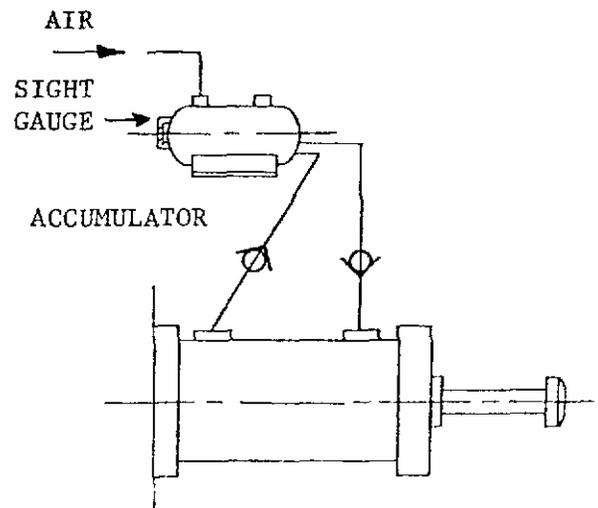

Figure 2
1. Connect air and hydraulic lines as shown in Figure 2. Make sure check valves are installed in opposite directions for positive oil flow. Check valve with free flow to accumulator port. This line carries fluid resulting from piston rod displacement when impacted and should be as large a diameter as practical in order to minimize fluid transfer velocity and corresponding jacket tube pressure. Install check valves close as possible to shock absorber.